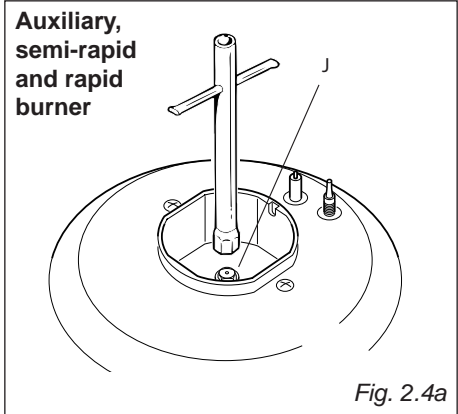

Fig. 2.4a
- Using a wrench, substitute the injectors "J" (figs. 2.4a, 2.4b, 2.4c, 2.4d) with those most suitable for the kind of gas for which it is to be used.